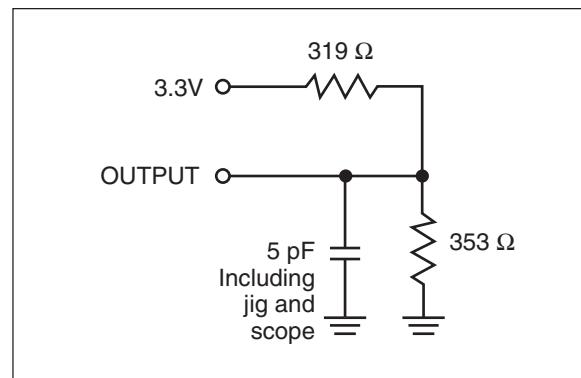

Figure 1b.
2. Tested with the load in Figure 1b. Transition is measured ± 500 mV from steady-state voltage. Not 100% tested.
- Tested with the load in Figure 1b. Transition is measured ± 500 mV from steady-state voltage. Not 100% tested.